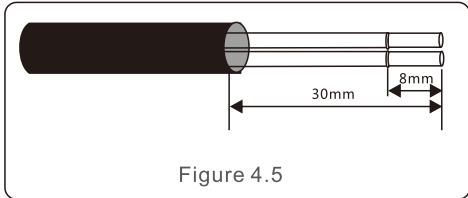

Figure 4.5
- a. Strip the insulation and shield to a suitable length. Use diagram below as a guide. (in Figure 4.5).
- d. Pull down the terminal block on user interface board(See Figure 4.5).
- e. Firstly insert cable into terminal board, then tighten the screws (dotted area) clockwise with slotted screwdriver; if user need to pull out cable, screws rotates anticlockwise with slotted screwdriver(See Figure 4.5).